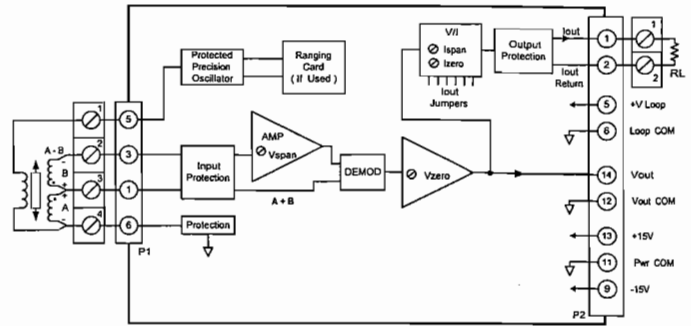

Figure 2.1.6.1 3B17 Functional Block Diagram
Figure 2.1.6.1 shows a block diagram for the 3B17. The ac excitation is provided on terminals 1 and 4. The amplitude and frequency of the ac excitation can be specified when ordered or can be configured externally with the AC1310 custom ranging card. Input protection of up to 130V is provided for the input and excitation circuitry. The signal is amplified to give the high level voltage output and automatically synchronously demodulated to correct for any phase shift errors from the primary to the secondaries of the LVDT, eliminating the need for a phase adjustment.
The 3B17 uses a unique approach to compensate for these errors. The two secondary windings are identified as A and B in Figure 2.1.6.1, with the normal output being A – B. The function A + B is a voltage that is in phase with the secondaries and nearly invariant with the core displacement. Since this term is much larger than the quadrature voltage, it can be used to drive the demodulator directly. The 3B17 generates the A + B term by manipulating the A and A – B outputs. This approach automatically compensates for any phase error between the primary and secondaries of the LVDT and eliminates the need for a phase adjustment. It also rejects any residual quadrature voltages automatically. The 3B17 is the complete solution for your LVDT needs.
1. Connect model 3B17 as shown in Figure 2.1.6.1 with  $R_L = 250\Omega$ , leaving the +EXC wire disconnected.